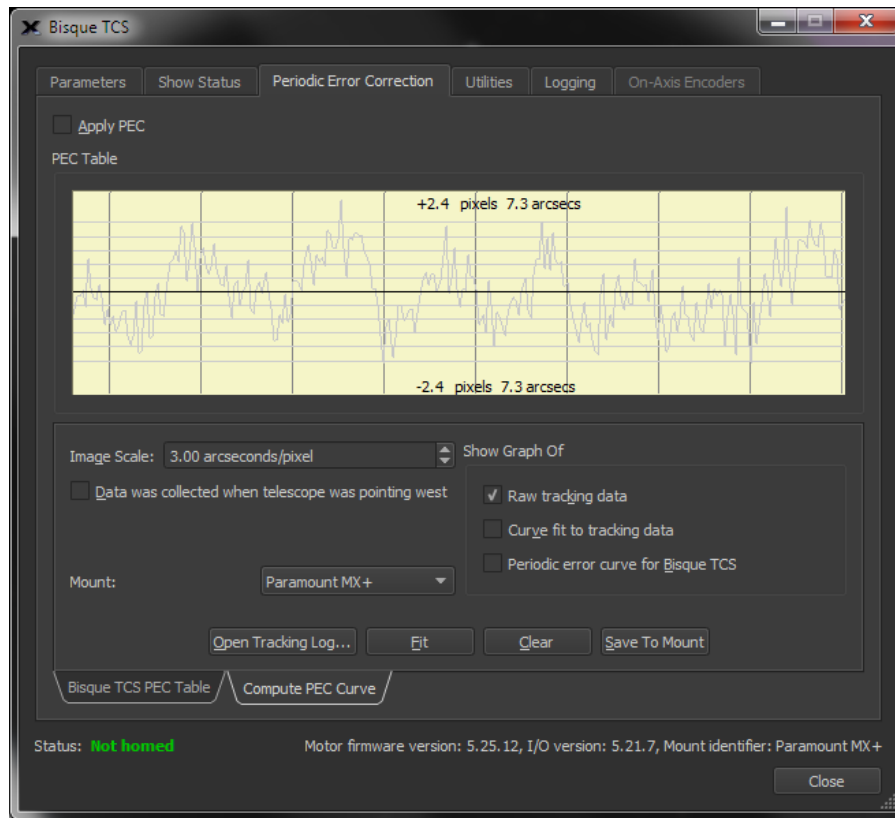

Figure 78: Graph of tracking log data.
5. Select the tracking log file and click **Open**. The "raw" periodic error data shown on Figure 78. Your results will vary, but the noisy-looking data is normal. For this example, each pixel of motion recorded in the tracking log equates to one arcsecond of error. The maximum and minimum error values are displayed on the right side of the graph (these values are not easily visible in Figure 78).